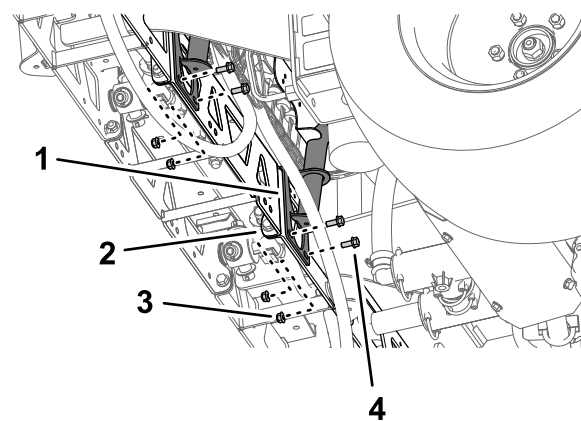
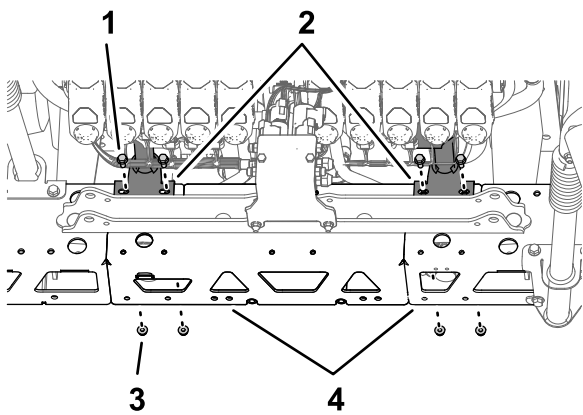

Figure 108
Figure 109
- Align the holes on the mount bracket of the valve mount to the holes on the truss frame of the center sprayer section (Figure 108).
- Assemble the valve mount to the truss frame (Figure 108 and Figure 109) with 4 bolts (5/16 x 3/4 inch) and 4 flange locknuts (5/16 inch).